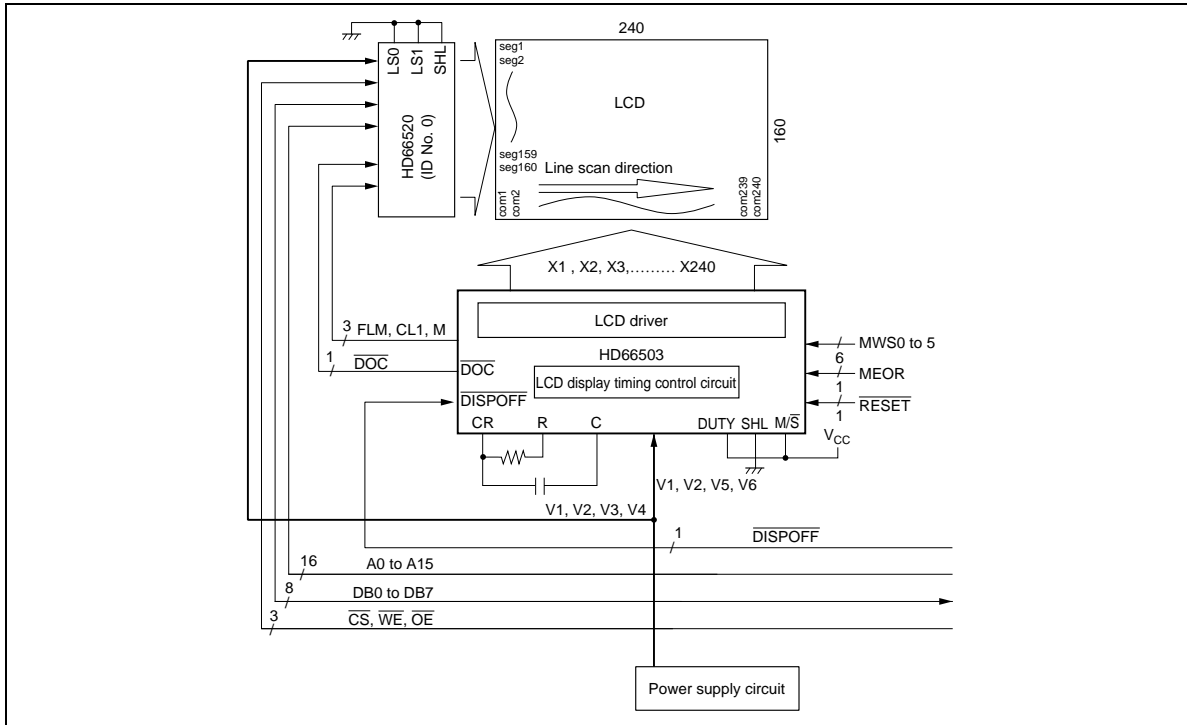

Figure 11 System Configuration (1)
Figure 11 shows a system configuration for a 240 × 160-dot LCD panel using segment driver HD66520 with internal bit-map RAM. All required functions can be prepared for liquid crystal display with just two chips except for liquid crystal display power supply circuit functions. Refer to Timing Chart (1) for details.